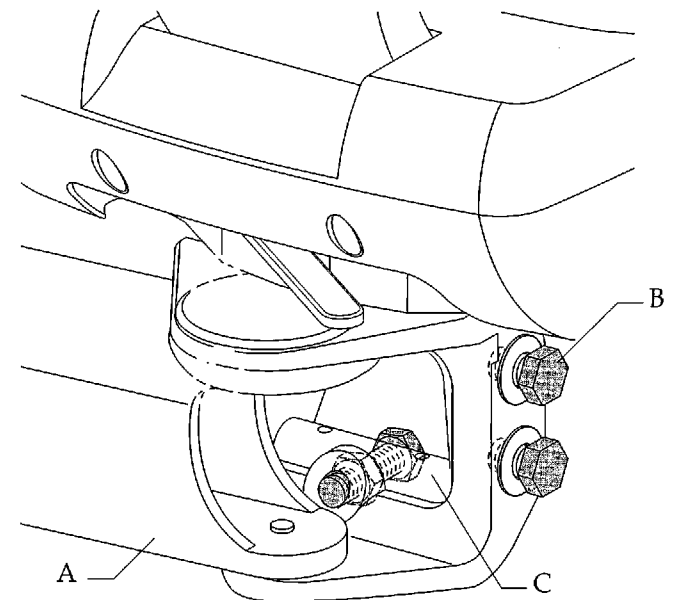

Figure 38. Mounting the support link. (A) support link; (B) mounting bolt; (C) leveling bar;
3. Slide the support link onto the swivel and attach it with the top two mounting bolts and washers (see Figure 38). Do not tighten.
4. Install the bottom two mounting bolts and washers to the support link (see Figure 38).